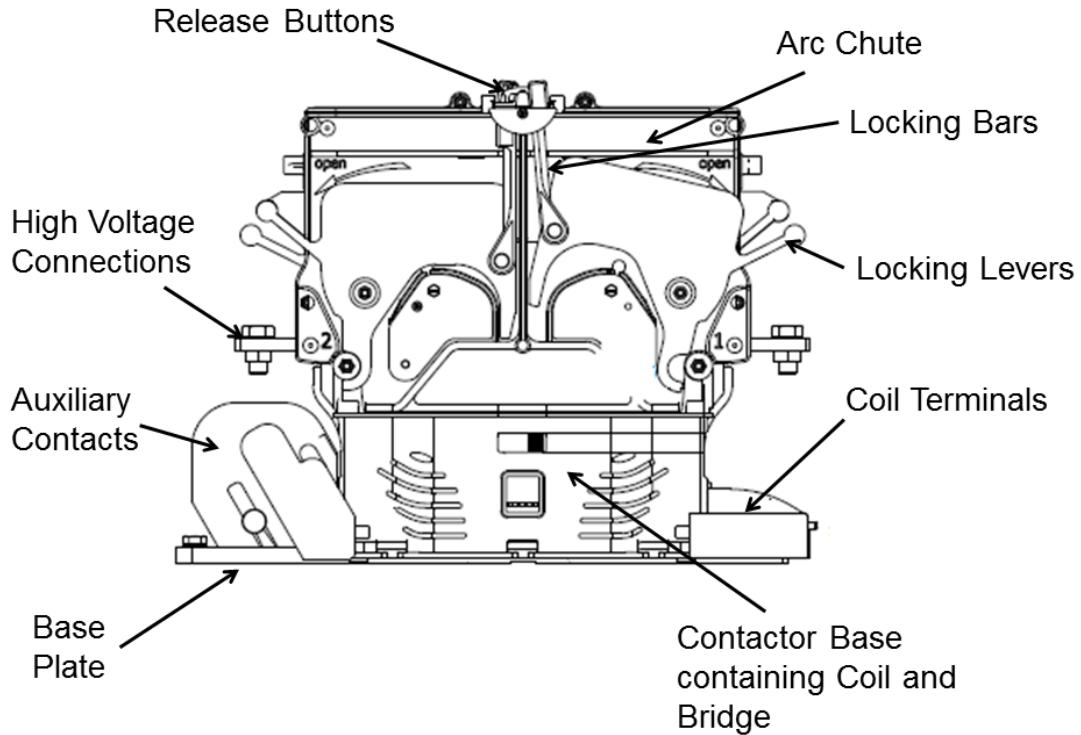
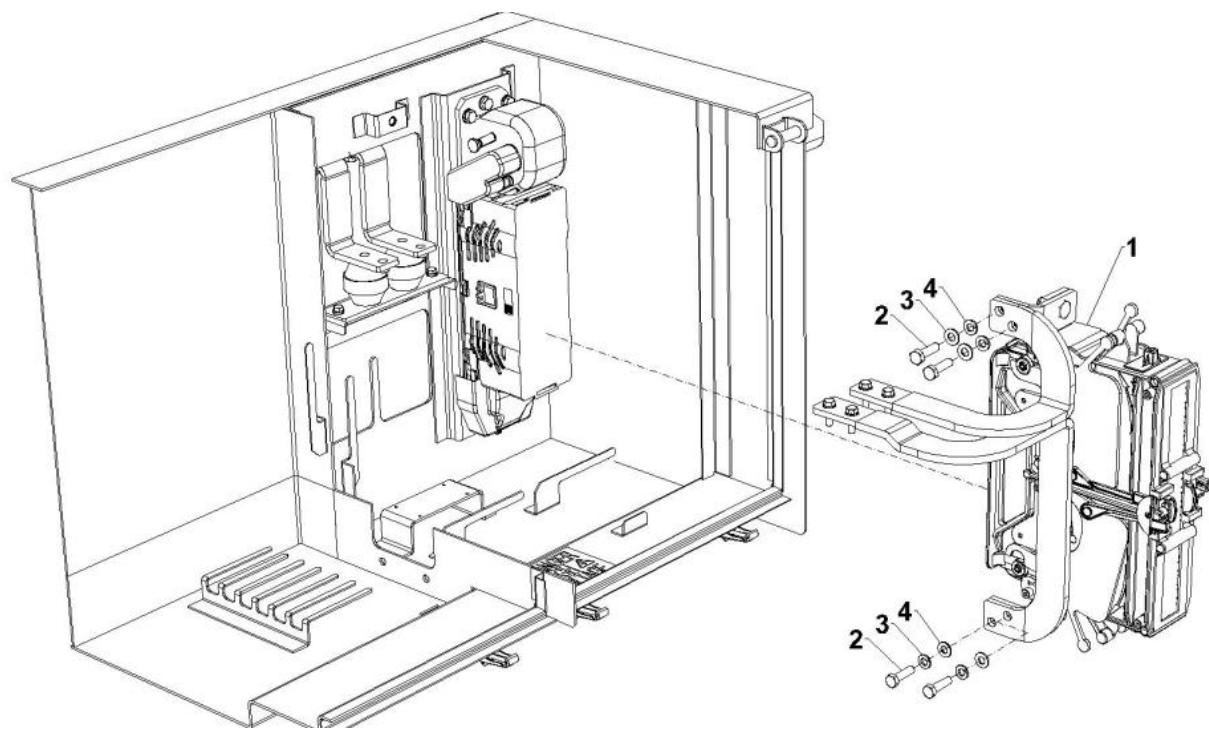

Figure 5-17: Line Switch Contactor Components
Figure 5-18: Line Switch Contactor Arc Chute Removal
1. The Line Switch contactor components are shown in Figure 5-17. The removal of the arc chute to access the contact tips is shown in Figure 5-18. Use these illustrations for reference for this section.
3. To access the main contacts, the arc chute must be removed first. Disconnect the four M4 bolts on the bus bars from the left side of the contactor at the top and the bottom of the contactor as seen in Figure 5-18.
Install four M4 bolts with a 7 mm socket. Use lock washers to secure the arc chute bus bars on the left side of the arc chute to the equipment case bus bars, as seen in Figure 5-17. Do not torque at this time.
As seen in Figure 5-17, squeeze together the black plastic release buttons on the front of the arc chute and turn up the four locking levers one by one. The locking bars will pop up at the release button.